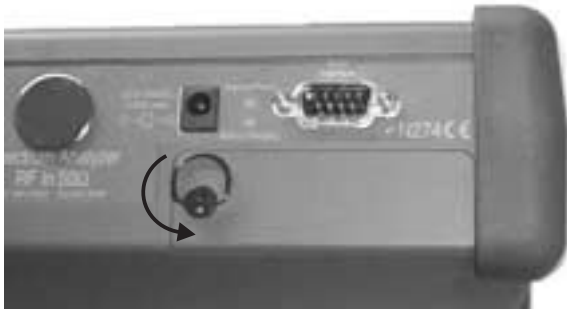

Figure 8. Rotate the Battery Access Door Handle
2. Lift up the access door handle and rotate it 90 degrees counterclockwise, as illustrated in Figure 8.